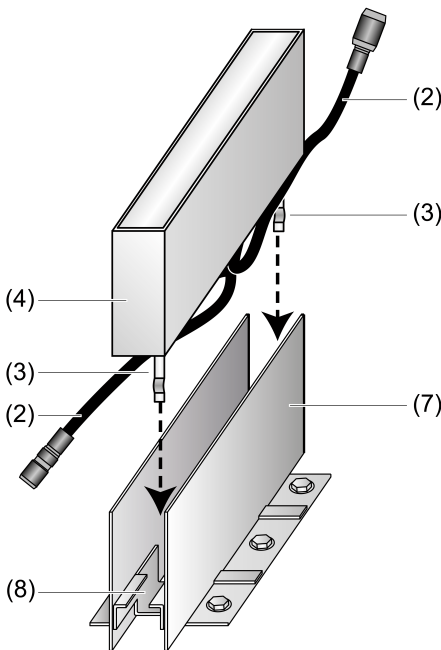

Figure 2: Installing the 344 mm luminaire
- When installing the 344 mm-long lamp make sure the connecting cable (2) is always routed besides the retaining springs (3) (Figure 2).
- Place the connecting cable (2) carefully in the groove of supporting strip (8).
- Insert the floor lamp (4) straight into the mounting frame.
- Press the luminaire down until it comes to rest on the supporting strip (8) and until the retaining springs (3) have engaged.